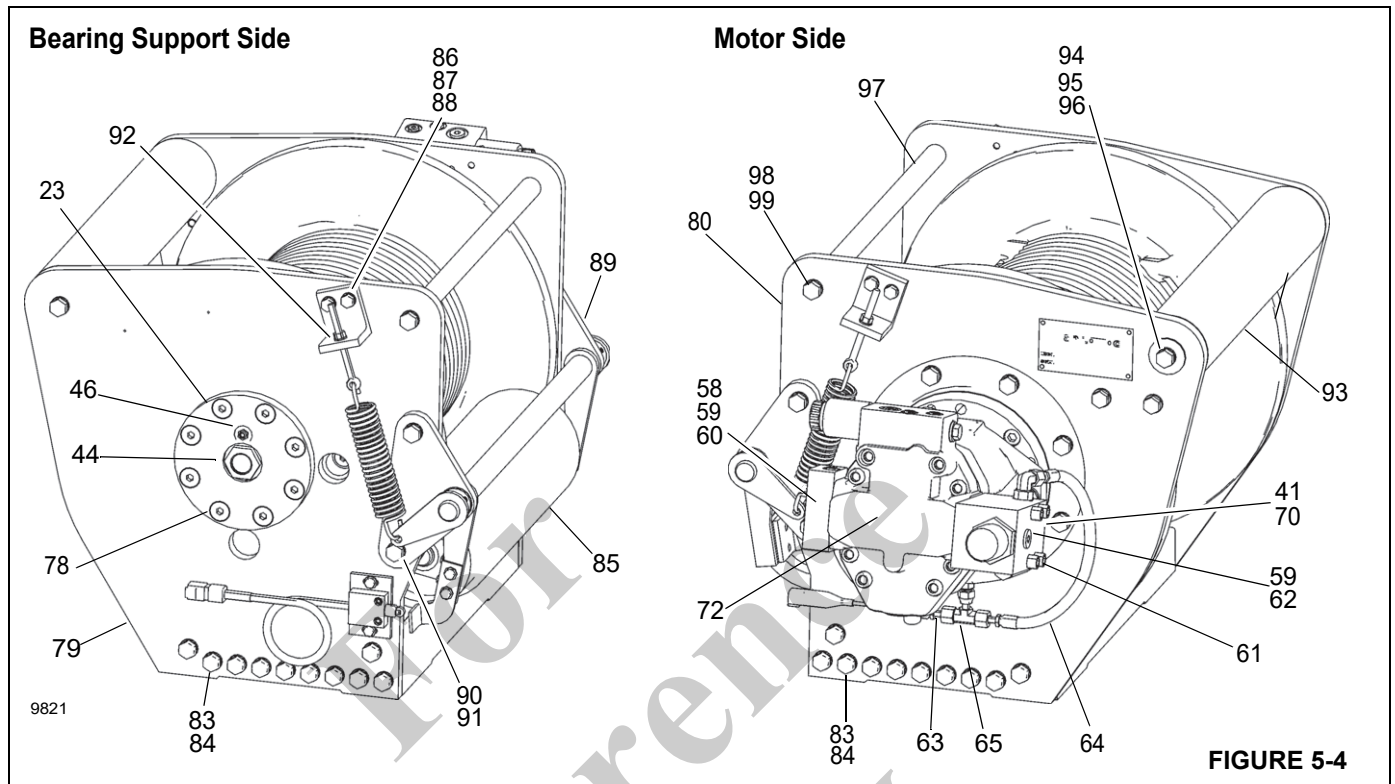
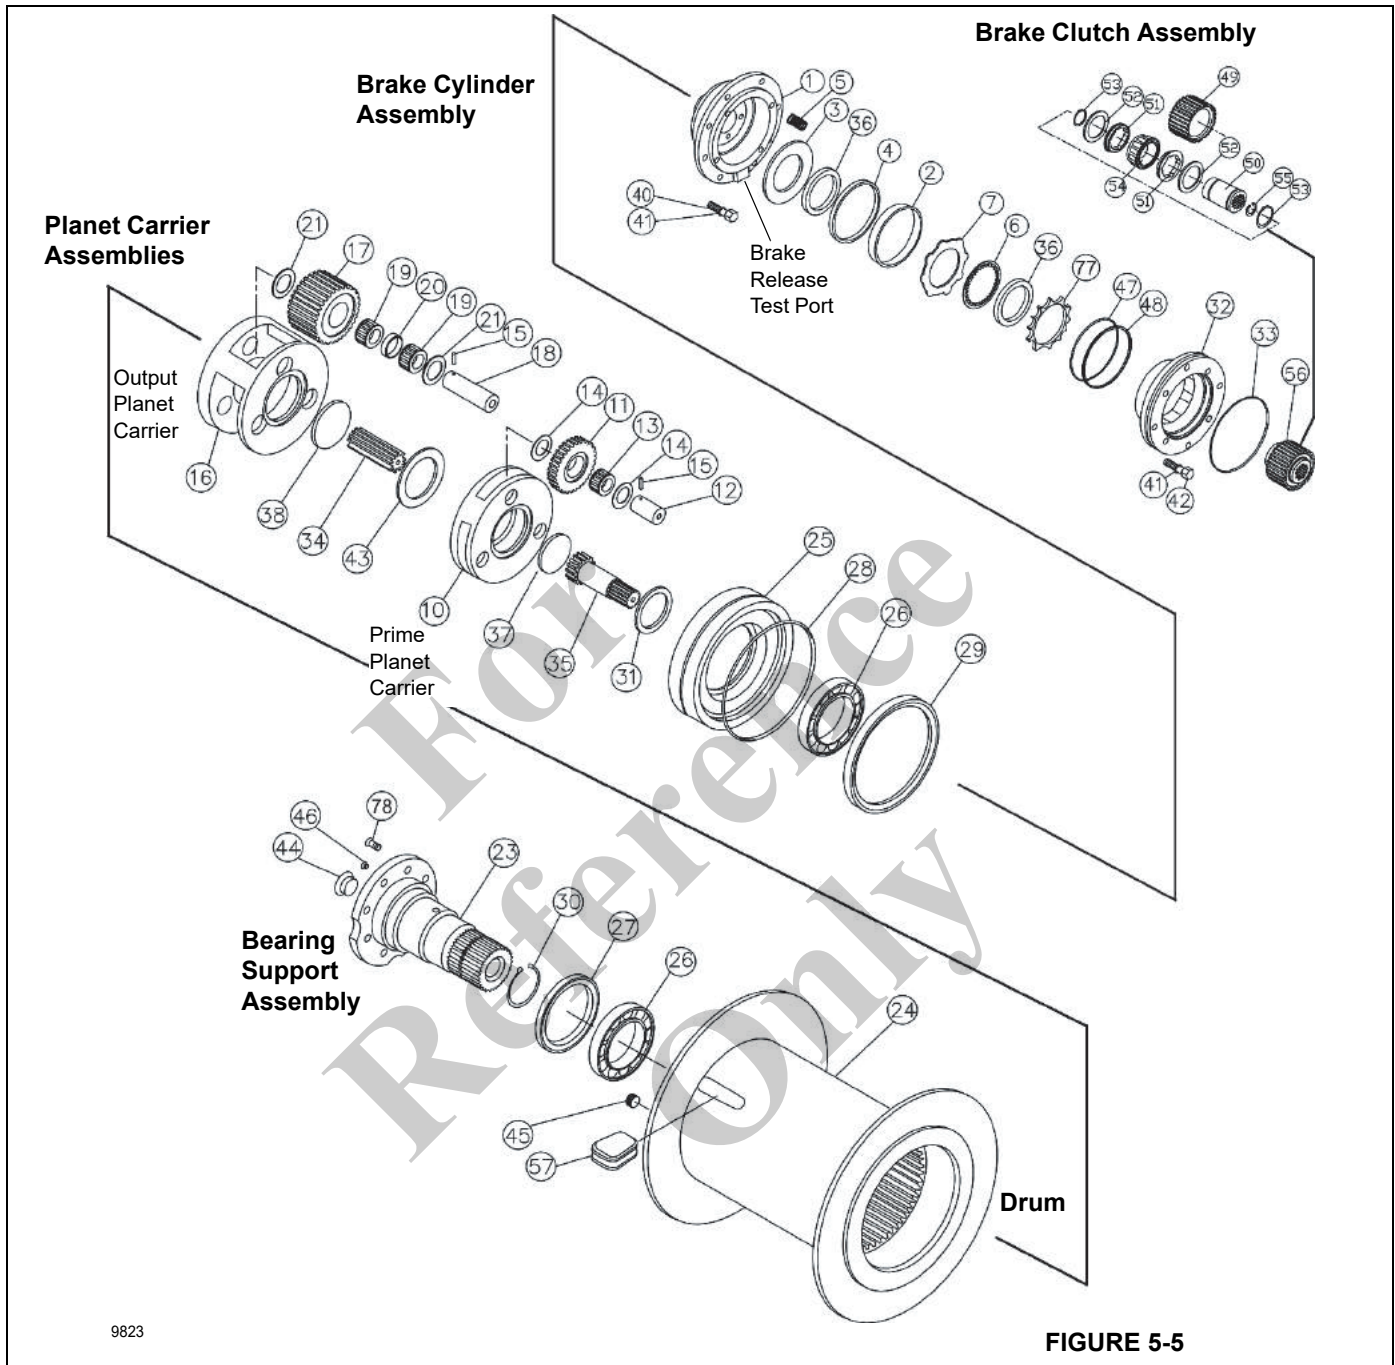

FIGURE 5-4
FIGURE 5-5
Refer to Figure 5-5 and Figure 5-5 and the Hoist Parts List on page 5-8 to disassemble the hoist.
3. Remove the roller assembly (85, Figure 5-4). For more information, *Roller Assembly*, page 5-10.
5. Remove the oil level sight gauge (44).
6. Remove the vent plug (46).
8. Tag and remove the hydraulic hoses (63 and 64) that connect the brake valve (62) and manifold (60) to the brake cylinder (1).
9. Remove the capscrews (70) and lockwashers (41) securing the motor (72), and lift the motor off of the hoist. Remove and discard the O-ring (33) installed on the pilot of the motor.
10. Tag and remove the hoses (63 and 64) and fittings (65) from the brake cylinder release port.
11. Remove the brake clutch assembly (56, Figure 5-5) from the motor support (32). Refer to *Brake Clutch*, page 5-12 for additional information.
12. Remove the motor support capscrews (42) and lockwashers (41) and install two capscrews and a short piece of chain into the motor mounting bolt holes. Using the chain as a handle, lift the motor support out of the brake cylinder being careful to avoid damaging the sealing surfaces. Remove and discard the O-ring (47) and backup ring (48) from the motor support (32). Refer to *Brake Cylinder*, page 5-10 for additional information. Note the location of the brake release port in relation to hoist prior to removing the brake cylinder.
13. Remove the brake cylinder capscrews (40) and lockwashers (41) and install two capscrews and a short piece of chain into the motor support mounting bolt holes. Using the chain as a handle, lift the brake cylinder (1) out of the drum and base, being careful to avoid damaging the sealing or bearing surfaces. Refer to *Brake Cylinder*, page 5-10 for additional information.
14. Remove the motor end side plate (80).
16. Remove the seal (29) and bearing (26) from inside of closure.
17. Remove the primary sun gear (35) and thrust washer (31) from the primary planet carrier (10).
18. Remove the primary planet carrier (10) from the drum. Refer to *Planetary Set*, page 5-11 for additional information.
19. Remove the output sun gear (34) and thrust washer (43) from the output planet carrier (16).
20. Remove the output planet carrier (16) from the drum. Refer to *Planetary Set*, page 5-11 for additional information.
21. Stand hoist on motor end with bearing support up. Remove eight bearing support capscrews (78, Figure 5-4) and bearing support (23, Figure 5-4 and Figure 5-5) being careful to avoid damaging the sealing or bearing surfaces.
22. Slide drum out of base onto a work bench and remove seal (27) and bearing (26) from support end.
Refer to Figure 5-4 and Figure 5-5 and the Hoist Parts List on page 5-8 to disassemble the hoist.
14. Install the hoses (63, 64, Figure 5-4) and fittings (65) to the brake cylinder release port.
16. Engage the motor shaft with the brake clutch inner race and lower motor into place. Tighten capscrews (70) and lockwashers (41) to recommended torque.
17. Install the hoses (63, 64, Figure 5-4) that connect the manifold (60) and brake valve (62) to the brake cylinder (1).
18. Install the roller assembly (85). For more information, see *Roller Assembly*, page 5-10.
20. Install the oil level sight gauge (44).
21. Install the vent plug (46).
Table 5-1 Hoist Item List (Figure 5-5)
Table 5-1 Hoist Item List (Figure 5-5) (Continued)